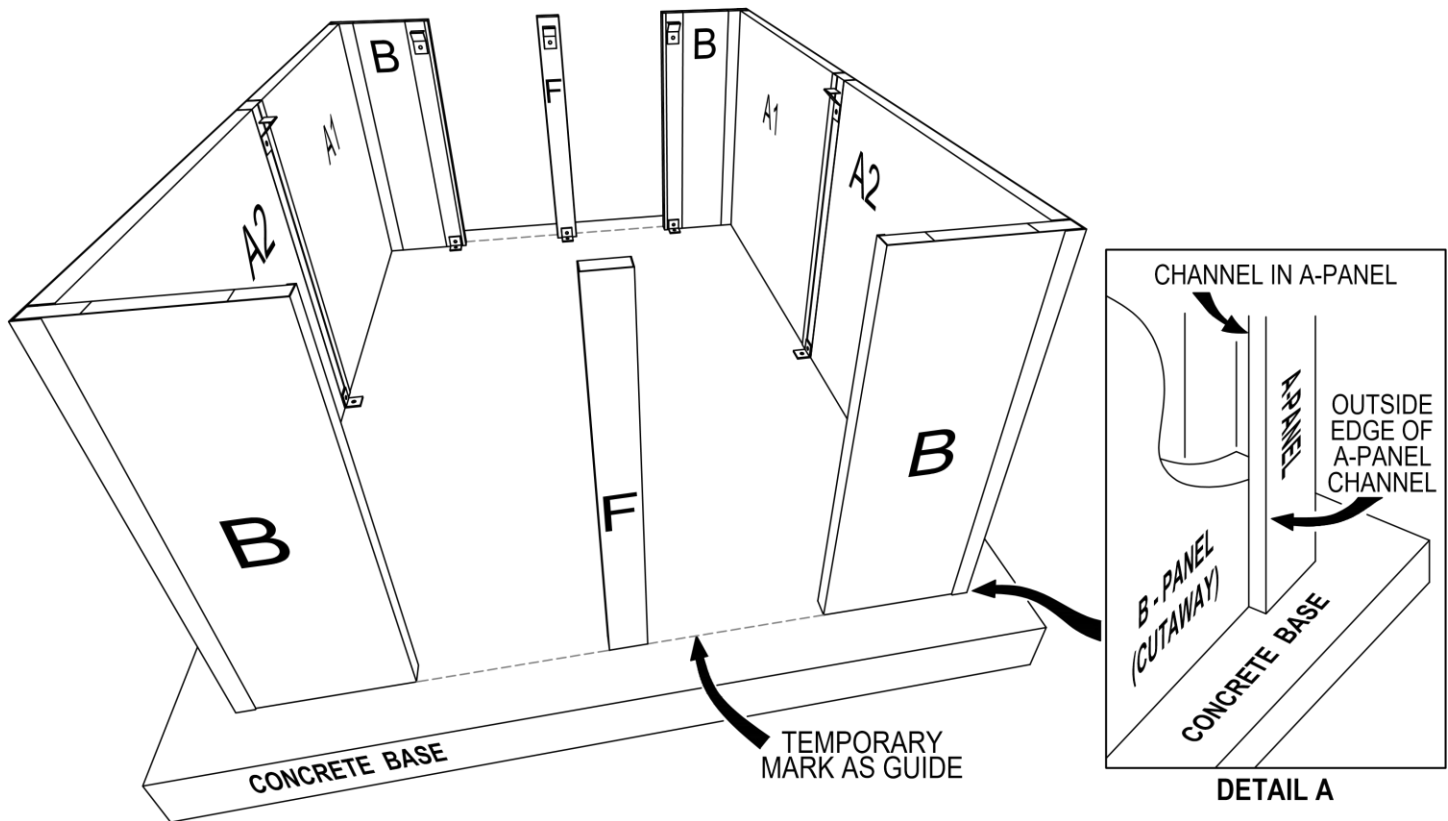

FIG. 1
4. Assemble the "A#-B#" (corner) assemblies through the holes provided oriented as shown in the Enclosure Plan View using Hex Head Screws. (For best results, insert a bead of silicone caulk into the inside bend of the "A#" panel corners.) Set them on the marked concrete base (Fig. 1).